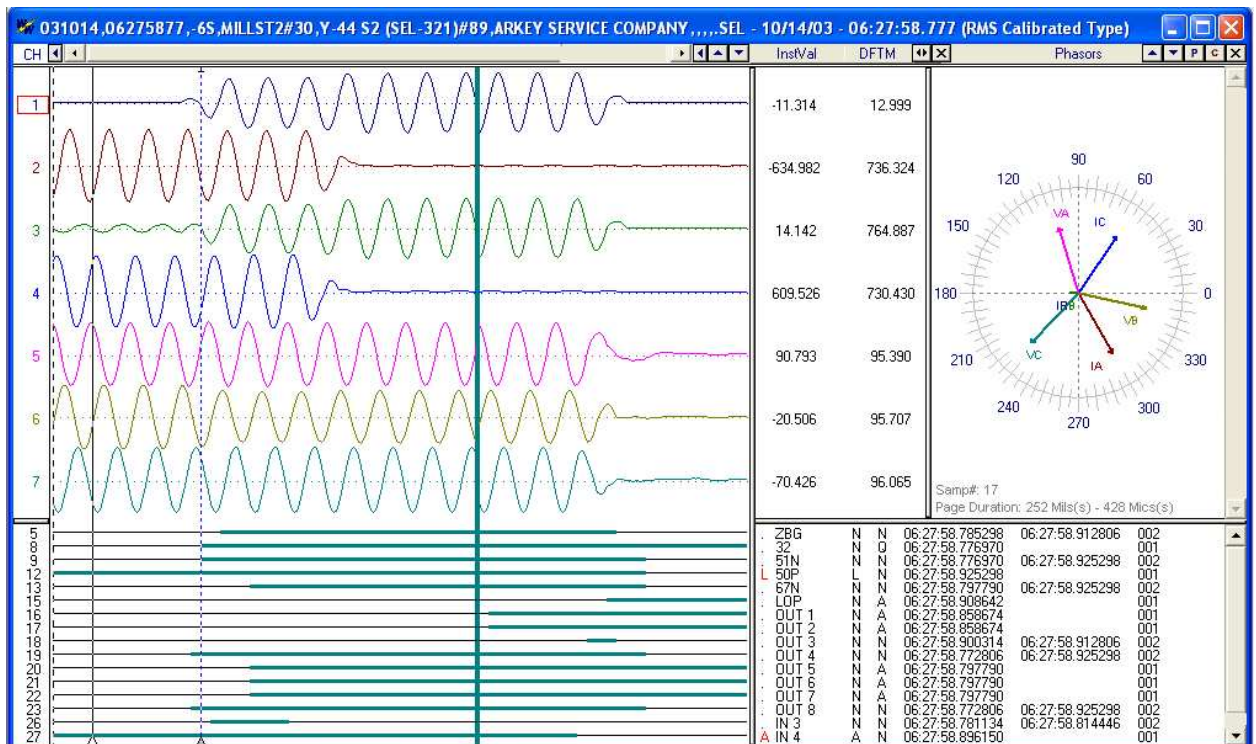

Figure 1.32 Append Waveform Files: Back to Back
- Back to Back: The files are appended back to back. No samples are deleted. Refer to Figure 1.32.